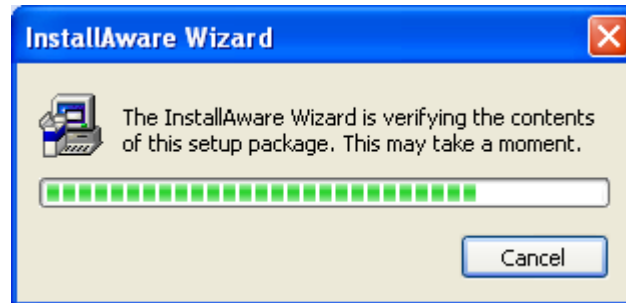

Figure 88 - InstallAware Wizard Verification Window
2. If the MatrikonOPC InstallAware screen does not automatically appear, double-click the installation .exe file. The **MatrikonOPC Server – InstallAware Wizard** verifies its contents (Figure 88).